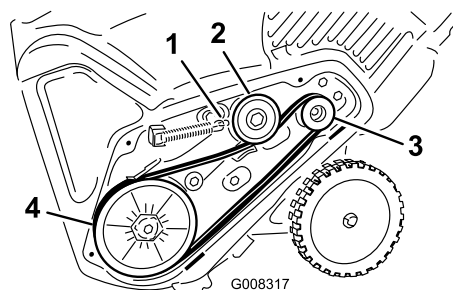

Figure 39
5. Install the new drive belt, routing it as shown in (Figure 39).
8. Install the brake spring onto the idler arm (Figure 39).